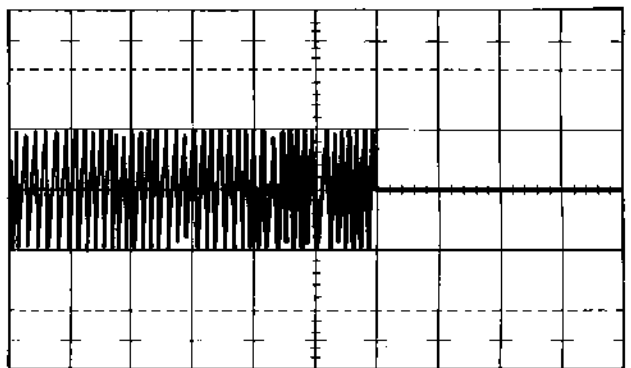

Figure 4-7. Index Pulse Timing Waveform
9. Verify that the signal burst (on the alignment diskette) occurs 200 ± 100 microseconds after the start of sweep (index pulse). See Figure 4-7.